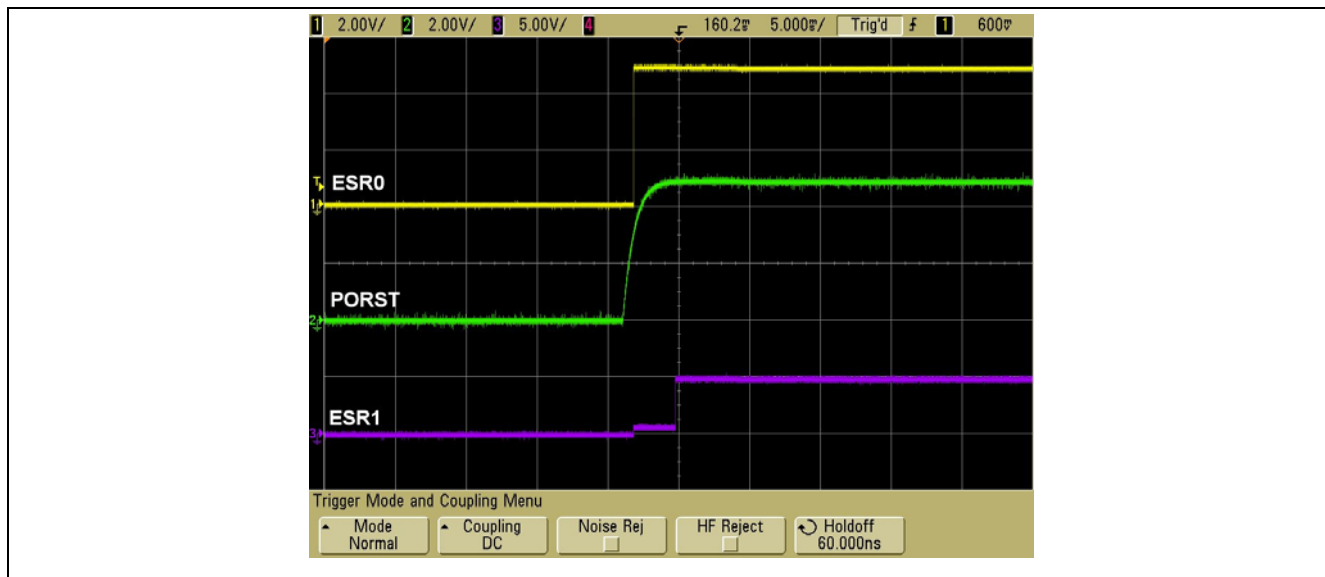

Figure 8 ESR1 as Reset Out Signal with Reset Out Delay after Power-up
**ESR1** and **ESR2** are configured after start-up as normal input pins, pull-up device activated. One of these pins can be used together with an external pull-down, to hold the signal at a low level. Later in the application software, the pin can be switched to push-pull output driving a high level. In Figure 8, the **SCU\_ESRCFG1** was written with a 0x000A; at the end of system init.